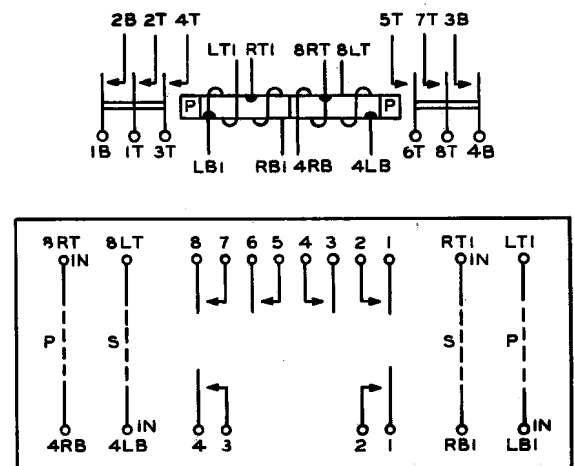

Fig. 49 — Winding and Spring Terminal Arrangement as Viewed From the Rear (terminal side) — Double-Wound 266-Type Relay
2.58 **Contact Springs:** As viewed from the front of the relay, contact springs are numbered consecutively from left to right considering the relay as one unit. As viewed from the rear of the relay the contact springs are numbered consecutively from right to left considering the relay as one unit as shown in Fig. 49. Cover-operated springs (springs operated when the cover is mounted on the relay), which are not designated on the circuit convention, are numbered the same as armature-operated springs.
**2.62** *Where the numeral 1 follows the letters*, the winding terminal is located at the right of the number 1 contact spring terminal. It is the first terminal in the row where the unit has one winding, or the first or second terminal where the unit has two windings. (See Fig. 49.)
**2.63** *The first letter L or R*, locates the winding terminal with respect to the relay core on which the winding is located. On a relay where each unit has one winding, the winding on the left unit is located to the left of the core of the left unit as viewed from the rear, and the winding of the right unit is located to the right of the core of the right unit. When each unit of the relay has two windings, the winding terminals of one winding of each unit are located to the left of the core on that unit; and the winding terminals of the other winding of each unit are located to the right of the core of that unit as shown in Fig. 49. Thus each such relay has two terminals designated LT, RT, LB, and RB. They can be distinguished from one another by the contact spring number associated with the letters.